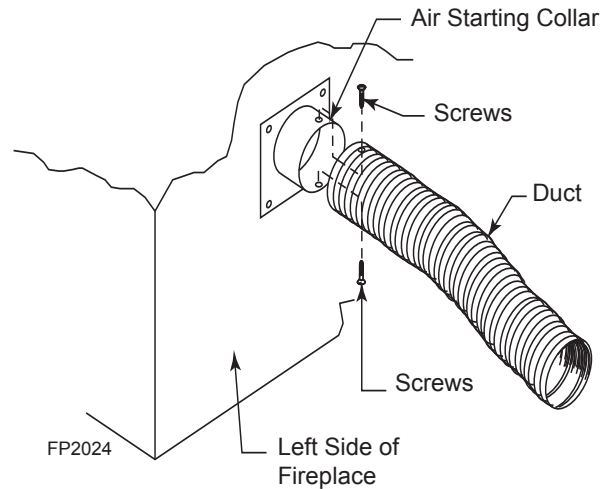

Figure 12 - Attach Outside duct to Starting Collar
4. Select and cut a piece of duct long enough to attach to the fireplace and stick out at least 3" beyond the face of the wall to which the OAC-4 inlet air vent will be attached. Cut duct with a standard pocket knife. *Figure 12*